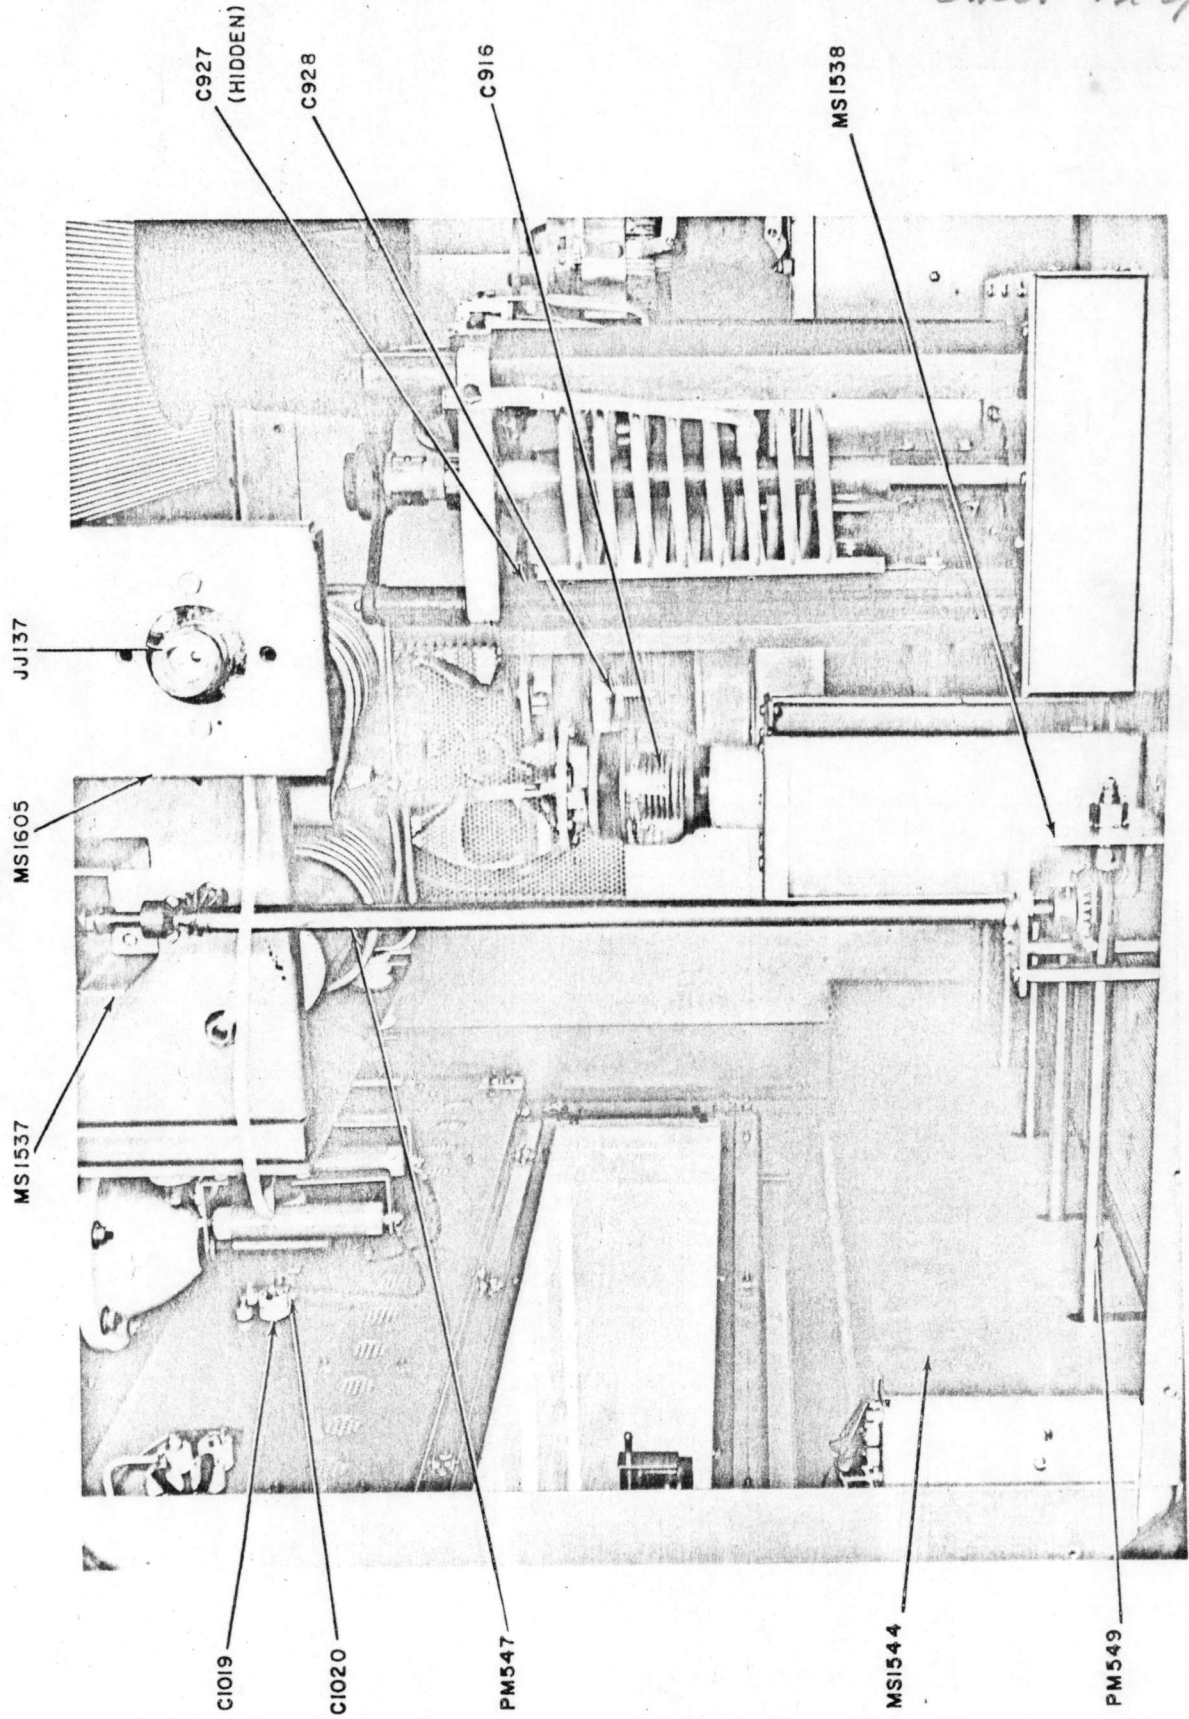

Figure 2. GPT-10K Before Modification
PROCEDURE NUMBER TWO Reference Figure 2
1. Referring to figure 2 remove MS 1544, main control panel R.F. shield and place aside for later use.
2. Referring to figure 2 remove connections from C927 PA tune capacitor, remove capacitor for later use.
3. Referring to figure 2 remove connections from C916, output balance capacitor, remove capacitor for later use.
4. Referring to figure 2 remove connections from C928, PA load capacitor, remove capacitor for later use.
5. Referring to figure 2 remove connections from C1019 and C1020.
6. Referring to figure 2, for dis-assembly of antenna tuner, remove MS 1538 bracket, support, right angle drive and leave in place for later use.
7. Referring to figure 2 remove MS 1537, bracket support, right angle drive and discard.
8. Referring to figure 2 remove PM 547, vertical drive shaft antenna tuner (discard).
9. Remove output load knob on main control panel and save. Now referring to figure 2 remove PM 549 and discard.